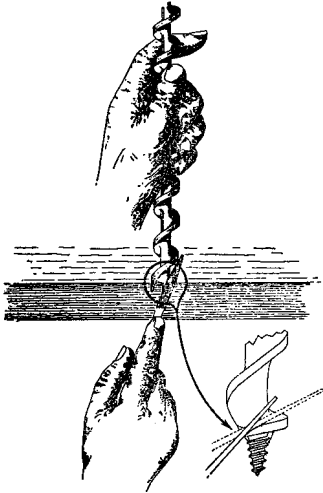

FIGURE 9.
- (4) *Resharpening Cutter*—Hold the bit in the left hand with the point down, resting the top of the screw point against the edge of a bench or other suitable support so that the cutting edge is parallel with the edge of the bench or other support. Using light strokes, sharpen the cutting edge to a straight line with an auger bit file, keeping the bevel practically the same as it was when the bit was new. See Figure 9.